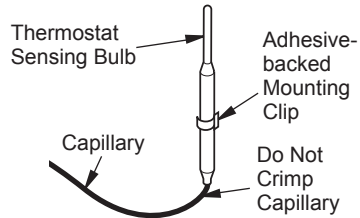

Figure 48 - Positioning the Thermostat Sensing Bulb in the Vertical Position with the Capillary at the Bottom
- The mounting clip must be a minimum of 3" from bottom of fireplace to prevent crimping of capillary. Once you have decided on a location, clean the area thoroughly. Remove the paper backing from the adhesive on back of mounting clip. Press the clip into the new location so that the thermostat sensing bulb will be positioned vertically with the capillary at the bottom (see Figure 48). Slide the thermostat sensing bulb into the clip.